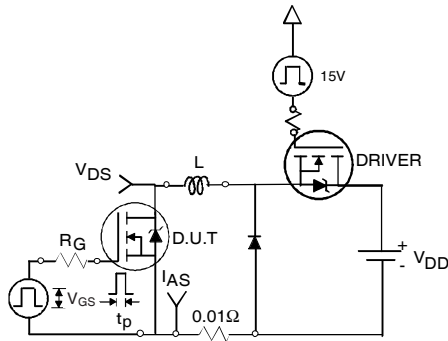

Fig 12a. Unclamped Inductive Test Circuit
- ③ Pulse width $\leq 1.0ms$; duty cycle $\leq 2\%$.
- ④ $C_{oss \text{ eff.}}$ is a fixed capacitance that gives the same charging time as C_{oss} while V_{DS} is rising from 0 to 80% V_{DSS} .
- ⑤ Limited by T_{Jmax} , see Fig.12a, 12b, 15, 16 for typical repetitive avalanche performance.
- ⑥ This value determined from sample failure population. 100% tested to this value in production.
- ⑦ This is applied to D²Pak, when mounted on 1" square PCB (FR-4 or G-10 Material). For recommended footprint and soldering techniques refer to application note #AN-994.
- ⑧ R_θ is measured at T_J of approximately 90°C .
- ⑨ Solder mounted on IMS substrate.
3. Equation below based on circuit and waveforms shown in Figures 12a, 12b.